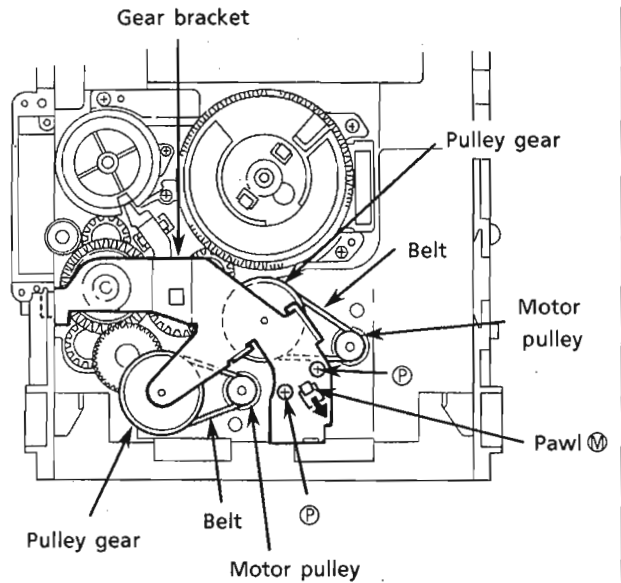

Fig. 44
(See Fig. 44.)
2. Press the pawl ② securing the gear bracket to the arrow in the figure to remove the gear bracket. (See Fig. 44.)
4. Remove each belts from the both actuator motor pulleys and the pulley gears. (See Fig.44.)